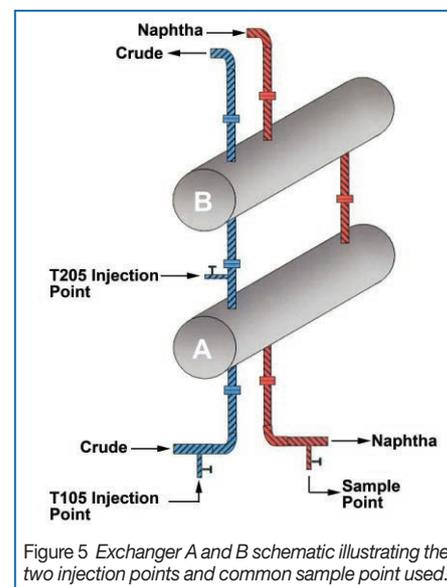

Figure 5 Exchanger A and B schematic illustrating the two injection points and common sample point used.
A review of the Process and Instrumentation Diagrams (P&ID) showed that there was no sample point between the exchangers on the naphtha side, so a common sample point downstream of the bank of exchangers had to be used. However there was an injection point before each of the two exchangers on the crude side (Figure 5). The first Tracerco proprietary chemical tracer, T105, was injected into the high-pressure crude inlet to the bottom exchanger (A) of the bank of exchangers. This tracer passed through the crude side of the bottom exchanger and then to the top exchanger (B). As the tracer was injected into the feed, the first sample cylinder was opened and then closed after a 30 second interval. The other nine sample cylinders were opened and closed in sequence, each over a 30 second period.